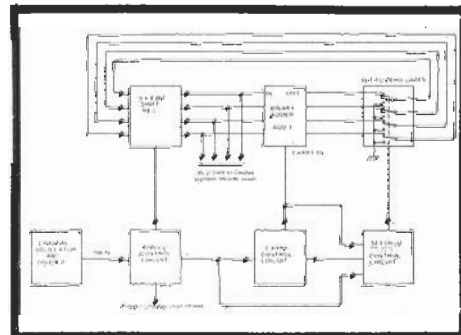

Fig. 1. An SR counter.
Figure 1 shows a block diagram of an SR counting system. The main advantages of the system are that as the data is handled sequentially (digit by digit) it is already in a format suitable for interfacing to multiplexed displays, and that increasing the size of the counter only requires increasing the shift register capacity and slightly modifying the control circuitry.
Figure 2 is identical to Fig 1 but the circuit blocks are filled in with actual components. For simplicity we will first discuss a clock using the "hrs hrs, mins mins, secs secs, 1/10th, 1/100th, 1/1000ths" format. This project does not have a separate "How it works" section; rather this is explained as we cover the various design options. The number in the counter is stored in a 9 x 4 bit shift register (4006 (1) and (2)). The output of the SR is returned to its input via a 2 digit and carry, 4 bit, binary adder (4008 (1)), and a set of 4 AND gates (4081 (1)). In one pass around the loop any digit may be left unchanged, incremented by one, or reset to zero. All that needs changing is the carry input to the adder and the common control to the 4 AND gates.